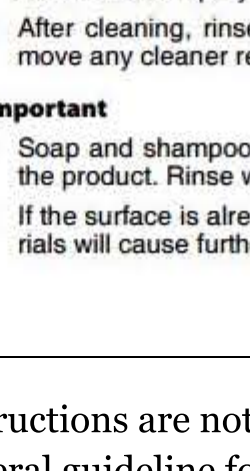

Figure 22
- Turn the thermostatic mixer handle until the output water measures 100° on a thermometer. (See Figure 22.)